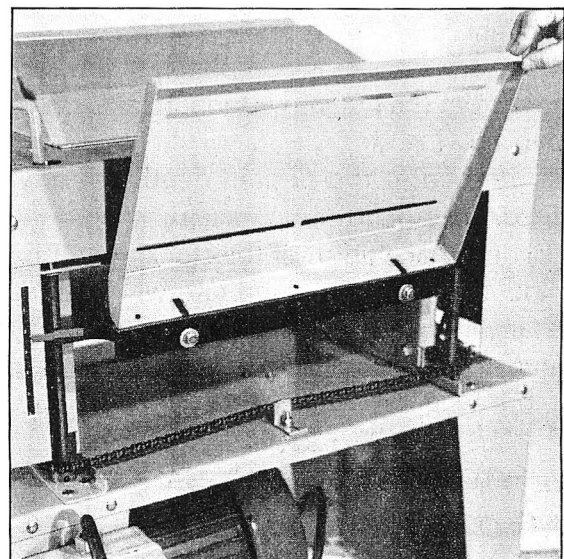

Fig. 5
4. Adjust the height of the table. The infeed extension table should be level with or 1/32" above the working surface of the bed. The outfeed table should be level with or 1/32" below the bed surface. The height of the ends of the extension tables may be adjusted with the set screws located in the table mounting bracket. (fig. 5)